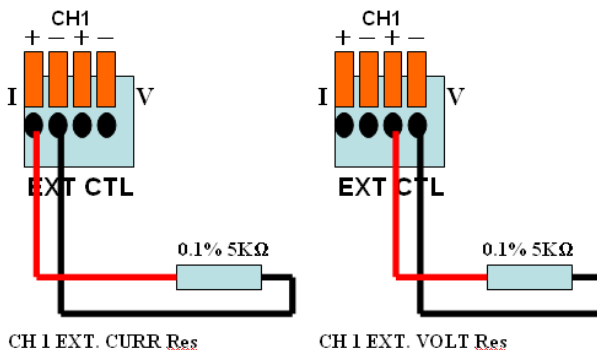

Figure 37- External Resistance Control Calibration setup (left) Current (right) Voltage
2. Connect the 10VDC source to the analog inputs on the **DIO/Analog Interface Card** as shown in Figure 37 for single channel.